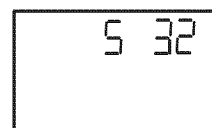

FIG. 56
- Press and hold the SELECT button for 3 seconds until a model code shows in the display, see Fig. 56.